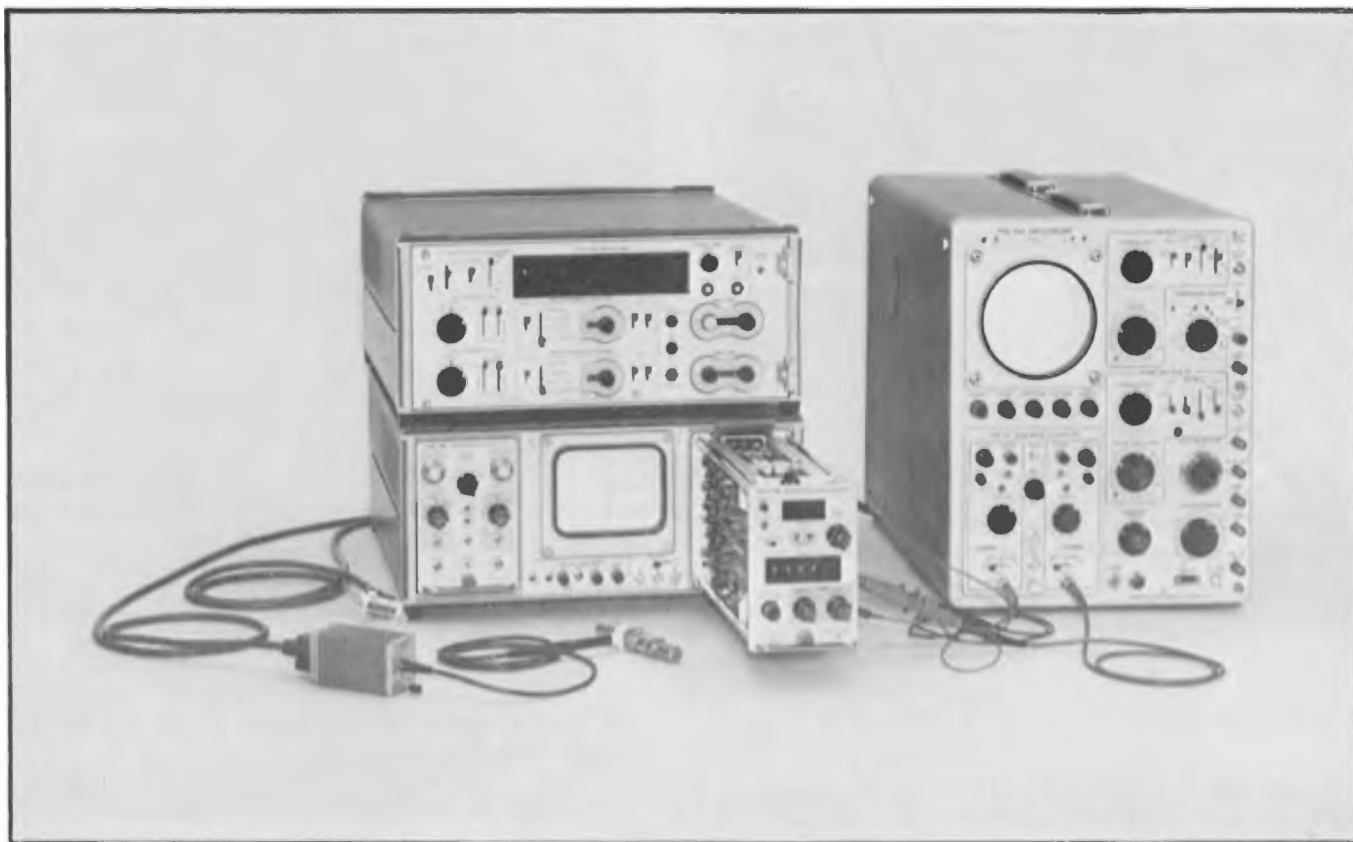
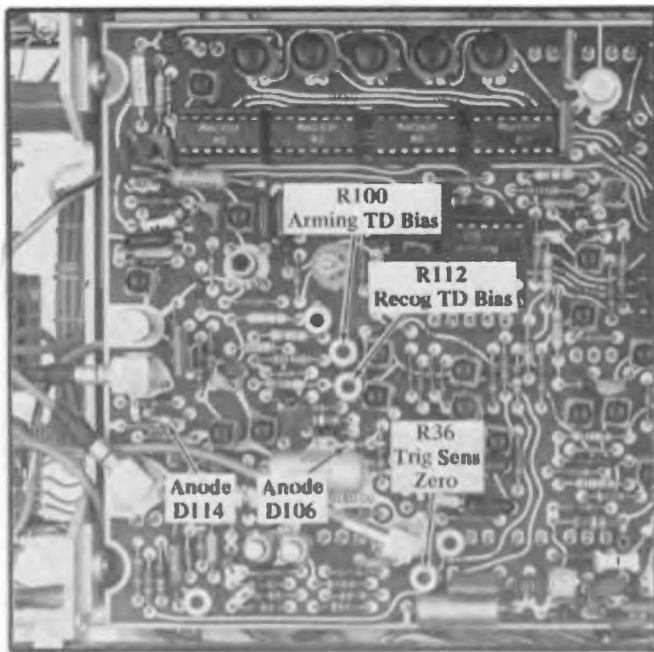

Fig. 5-10. Equipment setup for step 8.
Fig. 5-11. Locations of test points and controls for step 8, instrument right side.
a. Use the equipment setup as shown in Fig. 5-10. Connect the Channel 1 1X probe to the Anode of D114 and the Channel 2 10X probe to the Anode of D106. Locations as shown in Fig. 5-11. Trigger the test oscilloscope on the D114 waveform.
(1) Set R100 and R112 fully clockwise and set the SENSITIVITY control fully counterclockwise.
(2) Initially D106 is not switching to its high state. Turn R112, Recog TD Bias, counterclockwise and note the con-